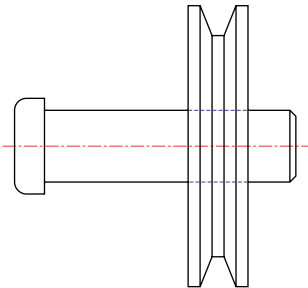

Fig. 10.18 The revised spindle.dwg drawing
7. Open the drawing **Fig16.dwg** and make changes as shown in Fig. 10.18.